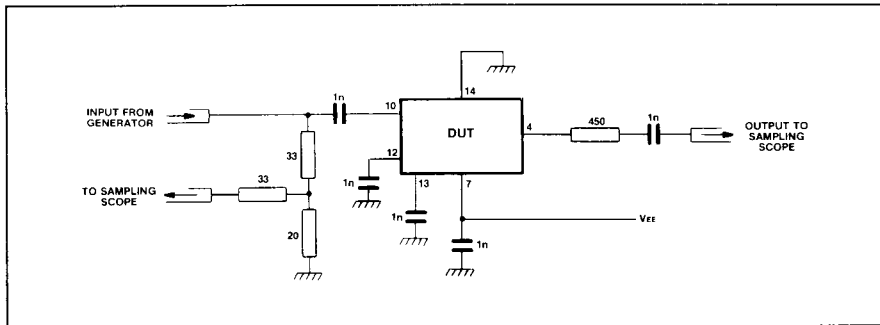

Fig.5 Test circuit
3. The test configuration for dynamic testing is shown in Fig.5.